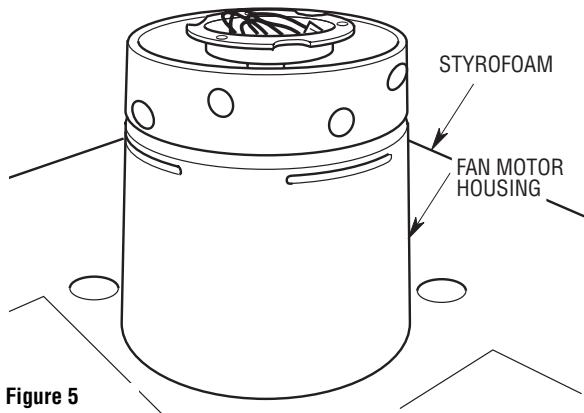

Figure 5
- 10. Position the bottom styrofoam section on a flat surface exposing the large center hole for fan motor placement. Place the partially assembled fan motor housing into the hole so that the bottom of the motor is facing up (Figure 5). The styrofoam section will hold the assembly while you perform the following steps.